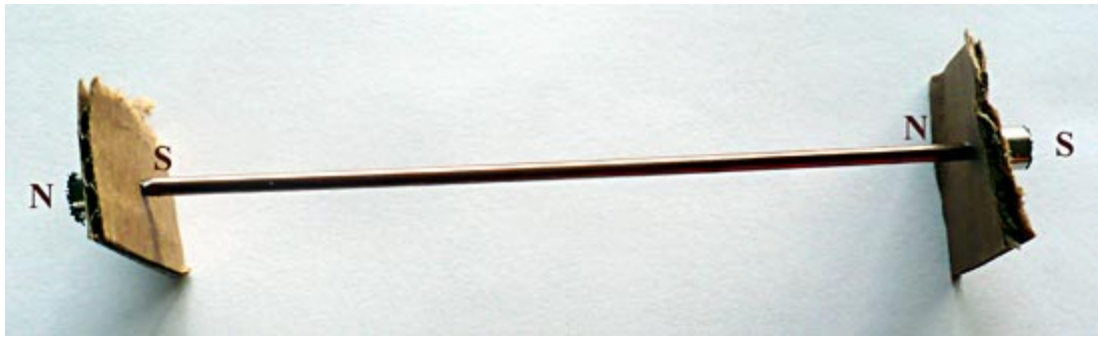

Figure 12. Iron core with magnets and small pieces of cardboard at both ends. The configuration shown has opposite poles facing the core.
- c. Place one magnet at one end of your iron core, with a small piece of cardboard between the core and the magnet, as shown in Figure 12. Place the other magnet and piece of cardboard at the other end, making sure opposite poles face the core.